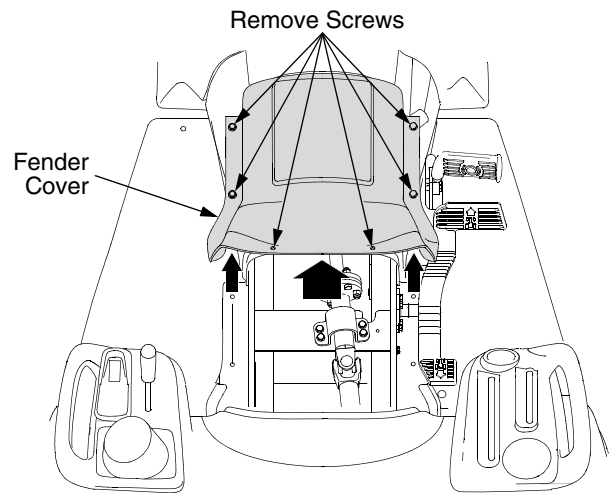

Figure 4
- Remove the four hex tapp screws and two truss head screws securing the fender cover; then remove the cover from the tractor. Refer to Figure 4.